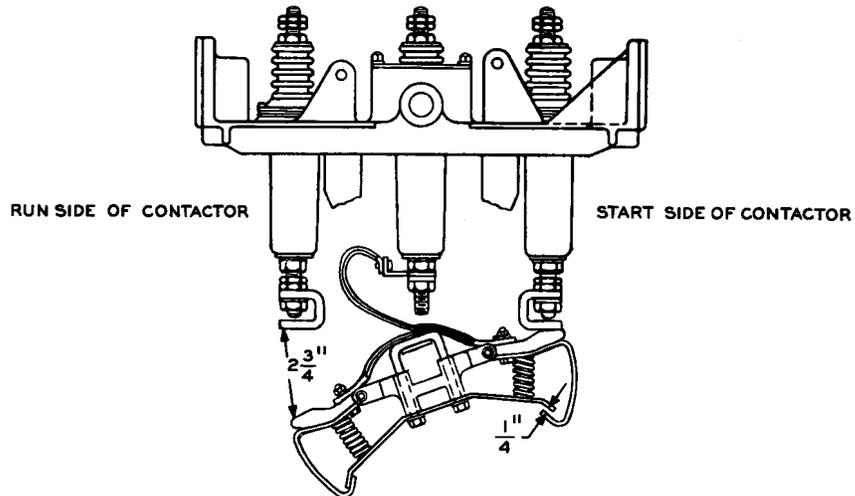

Fig. 12 – Contactor Mechanism on Form K22 Starter (in START Position)
- (b) With the handle in the START position, there shall be approximately 2-3/4 inches between the tips of the stationary and movable RUN contacts and 1/4 inch between the compression spring support and the arcing horn, as shown in Fig. 12.
(2) Move the handle to the START position and adjust the setscrew on the START side to give the clearance of 2-3/4 inches between the tips shown in Fig. 12. Then adjust the pressure on the START contacts by setting the stationary contact to give the 1/4-inch clearance between the compression spring support and arcing horn.